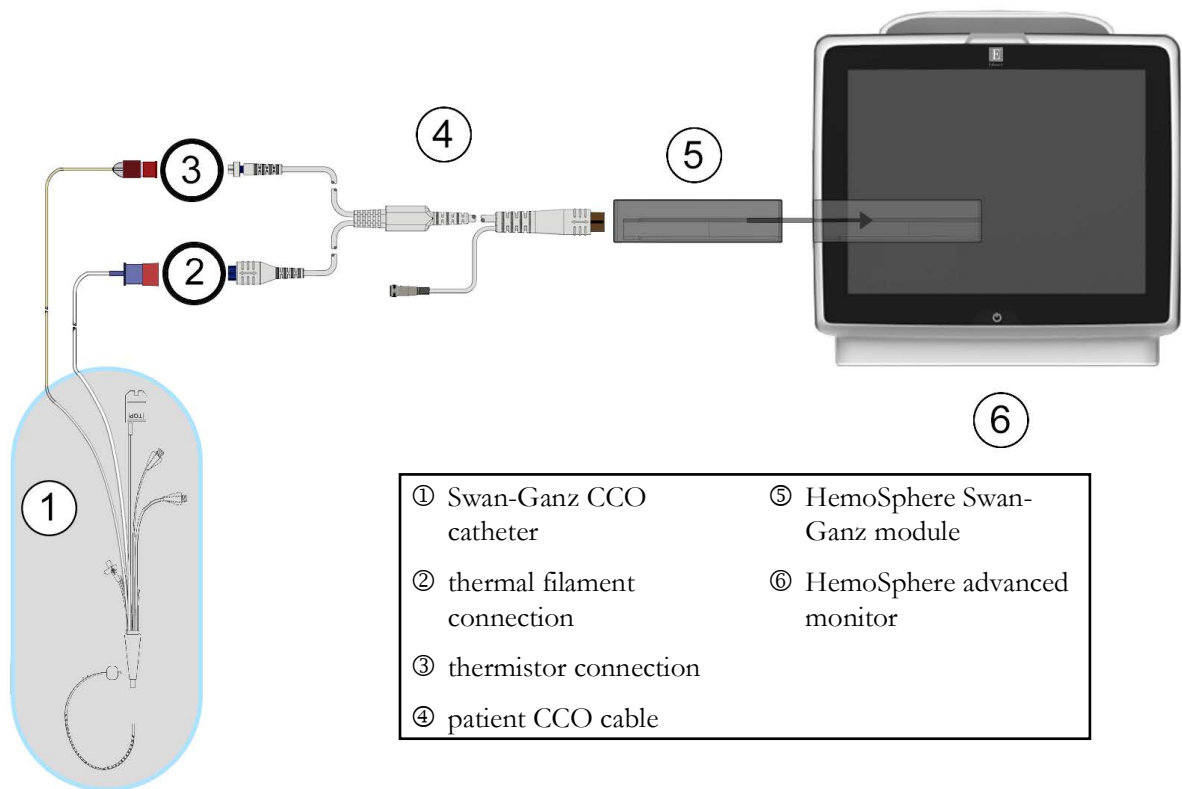

Figure 9-4 CO connection overview
- 2 Attach the catheter end of the patient cable to the thermistor and thermal filament connectors on the Swan-Ganz CCO catheter. These connections are emphasized as numbers ② and ③ in figure 9-4 on page 173.